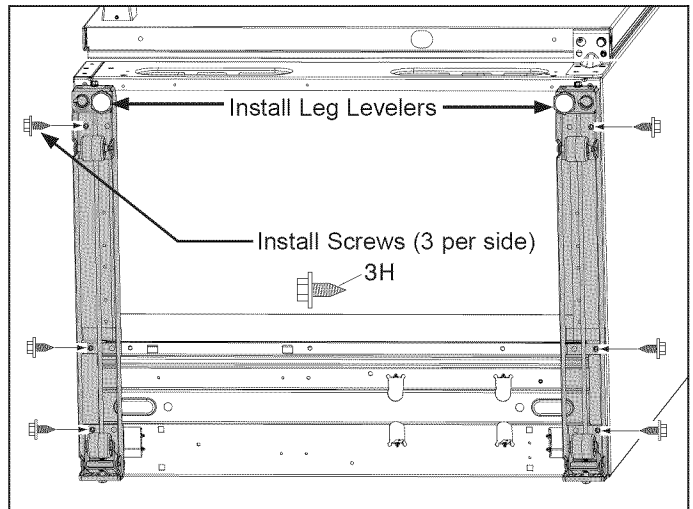

Figure 4.
- a. Attach the current leg leveler to leveling system. The leg leveler is a common part that will work on both bottom sides of the unit. (See Figure 4).
- b. Attach leg leveler with three (3) screws per side using a 3/8 socket.